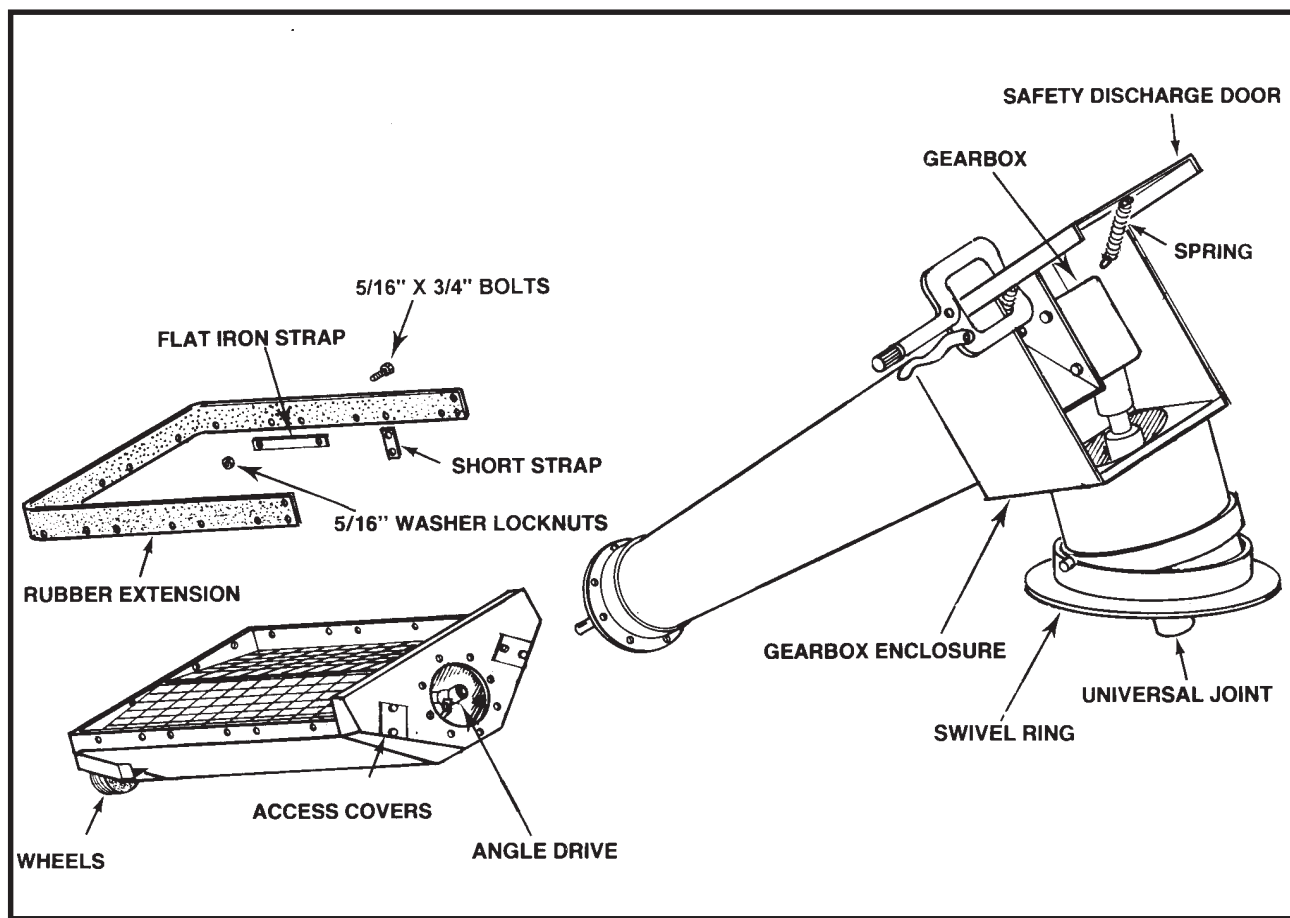

Figure No. 24
5. Install the two wheels to hopper bottom with a washer and cotter pin each. (See **Figure No. 24**)